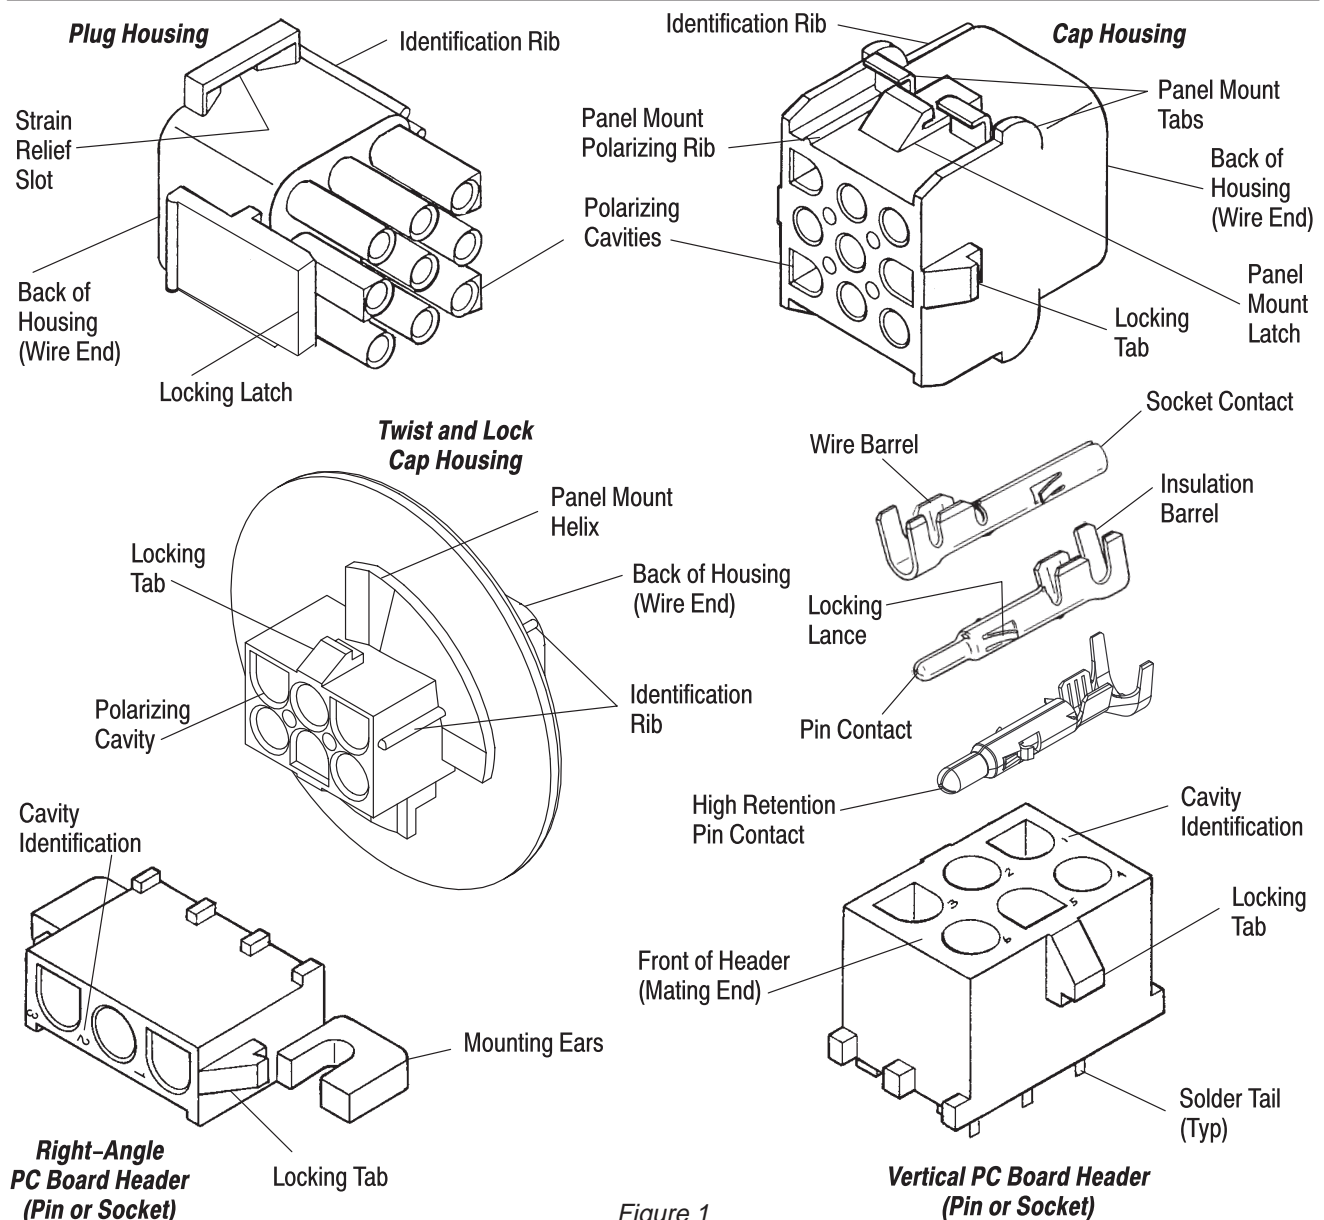

Figure 1
When corresponding with Tyco Electronics Personnel, use the terminology provided in this specification to facilitate your inquiries for information. Basic terms and features of this product are provided in Figure 1.
- Added new high retention pin and related information to Figures 1, 3, and 19